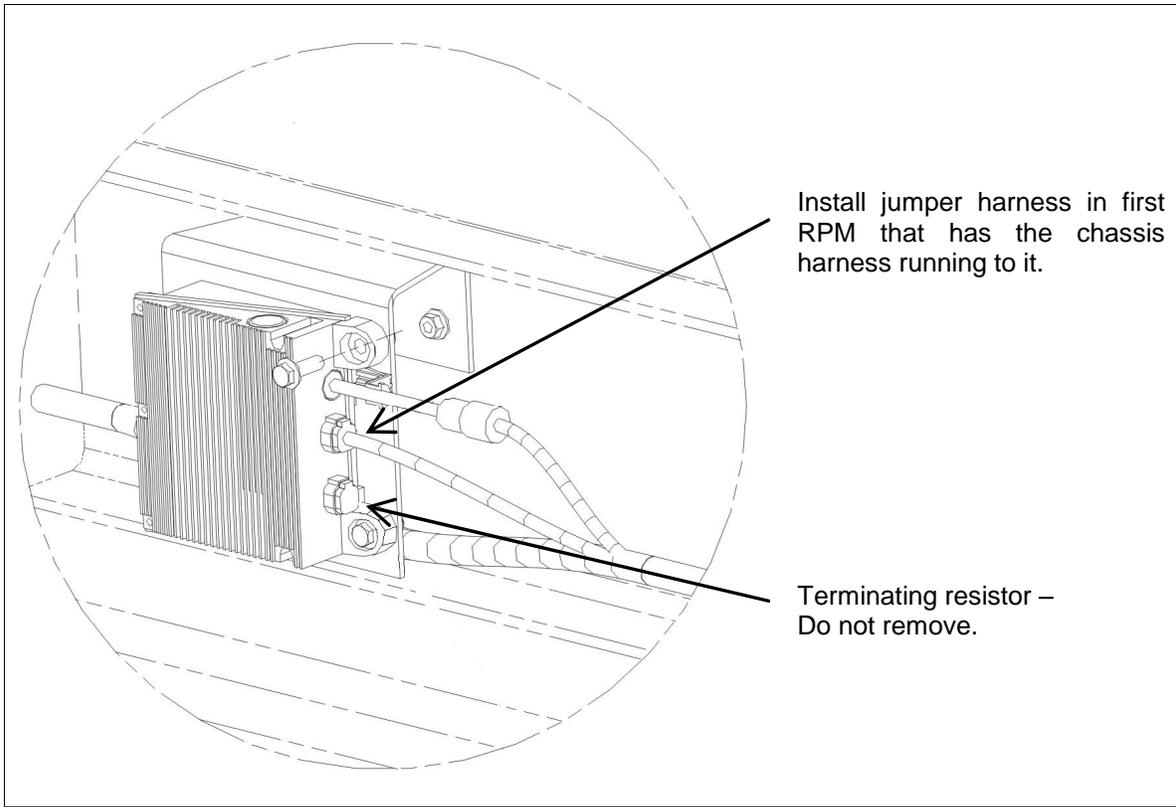

Figure 4.
2. See Figures 4, 5, 6, 7, and 8 illustrating where to install the 2597844C91 fused RPM jumper harness on a few common vehicle configurations.